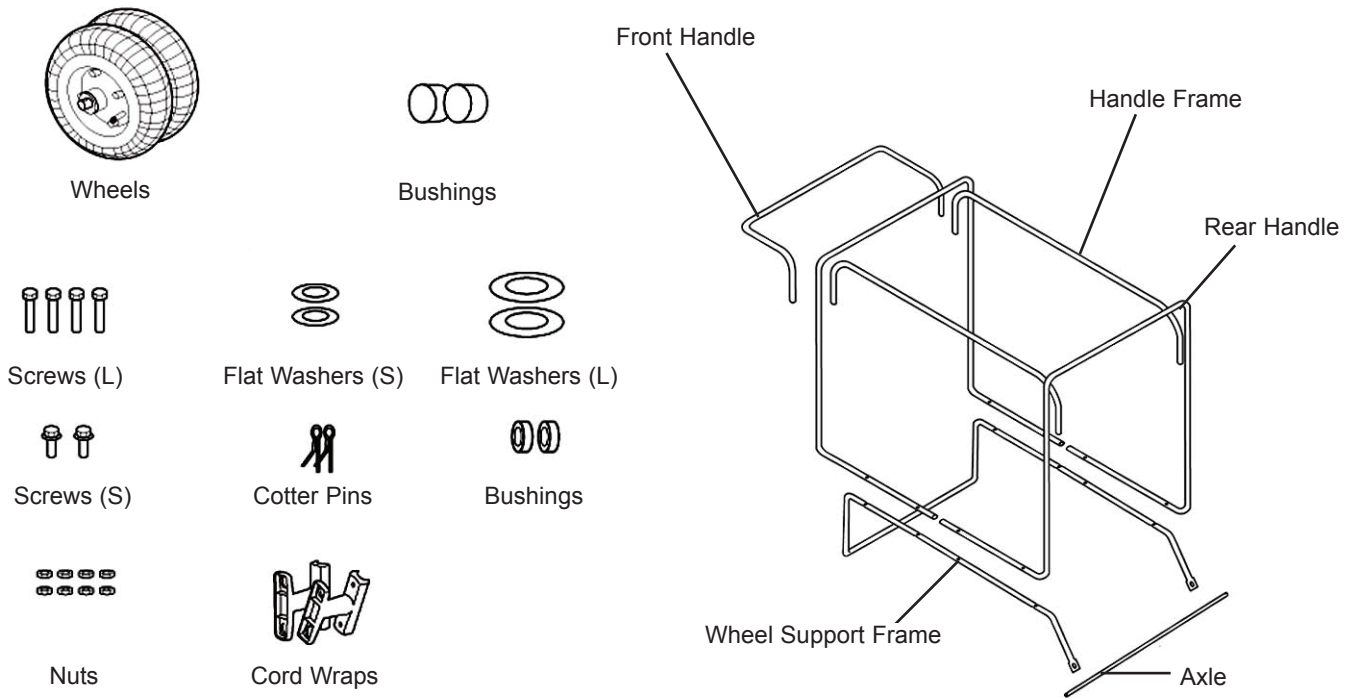

Figure 3: Hardware Components
2. Place flat washers (L) and cotter pins on axle ends and bend cotter pins with long nose pliers to secure.
3. Place wheel cap on flat washers (L) and put wheel cap in flat washers (L) end.
4. Place heater on wheel support frame. Make sure air inlet end (rear) of heater is over wheels. Align the holes on fuel tank flange. Insert screws through handles (front and rear), fuel tank flange, and wheel support frame as shown in Figure 3 and attach nut finger tight after each screw is inserted.